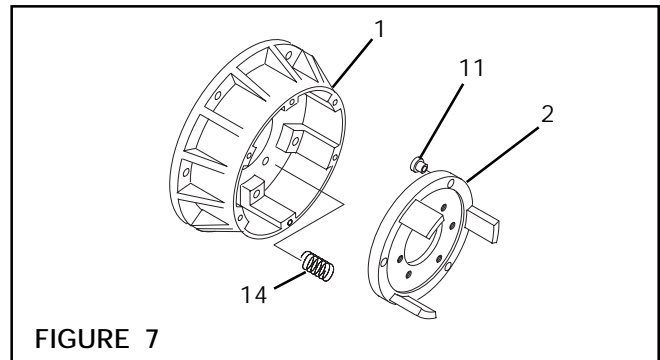

FIGURE 7
10. Remove old Sleeve Bearings (Item 11) and install new Sleeve Bearings provided in repair kit (See Figure 7).
11. Inspect the Compression Springs (Item 14) for signs of wear or fatigue and replace them if necessary (See Figure 7).
13. Apply a drop of Loctite® 242 to the six Socket Head Cap Screws (Item 12) and secure the Piston (Item 5) and Cylinder (Item 6) to the Housing (Item 1) (See Figure 7).
14. Alternately and evenly tighten the six Socket Head Cap Screws (Item 12) to the recommended torque (See Figure 7 and Table 4).